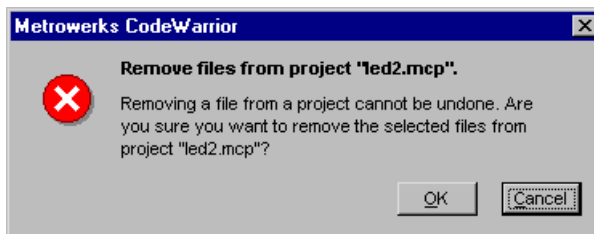

Figure 5-2 Confirm delete
- d. Confirm the delete by selecting **OK** (see Figure 5-2).